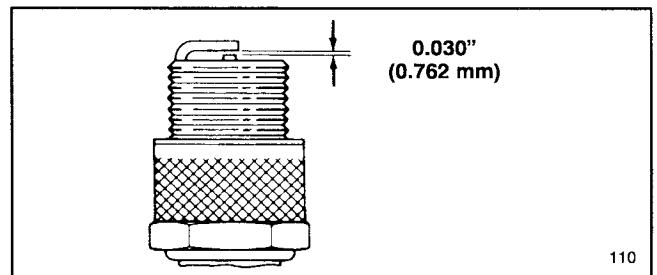

Figure 12
4. Set air gap between center and side electrodes at 0.030 of an inch (0.762 mm) (Fig. 12). Install correctly gapped spark plug w/gasket seal, and tighten plug to 15 ft-lb (20.4 N.m). If a torque wrench is not used, tighten plug firmly.